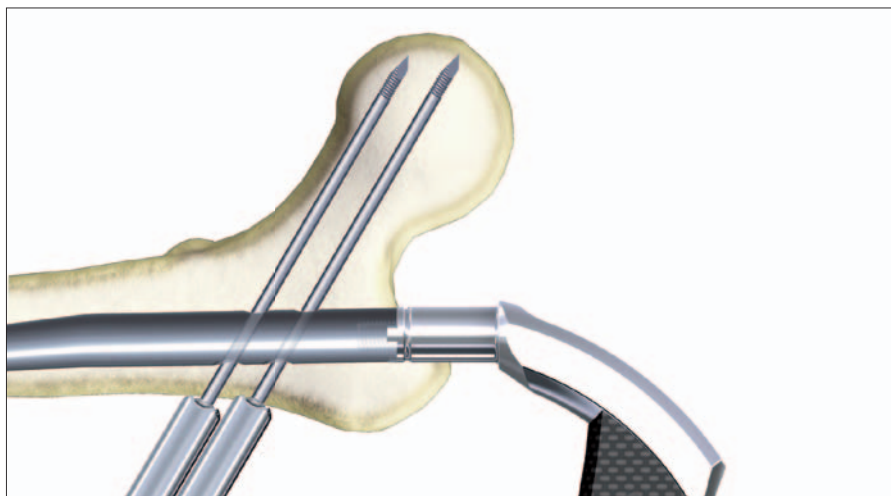

Fig. 33
After achieving a satisfactory position of the first Recon K-Wire slide the second Recon Tissue Protection Sleeve together with the Recon K-Wire Sleeve into the proximal target hole on the Targeting Arm, labeled (B). A small skin incision is made and the assembly is pushed through until it is in contact with the lateral cortex (Fig. 33).